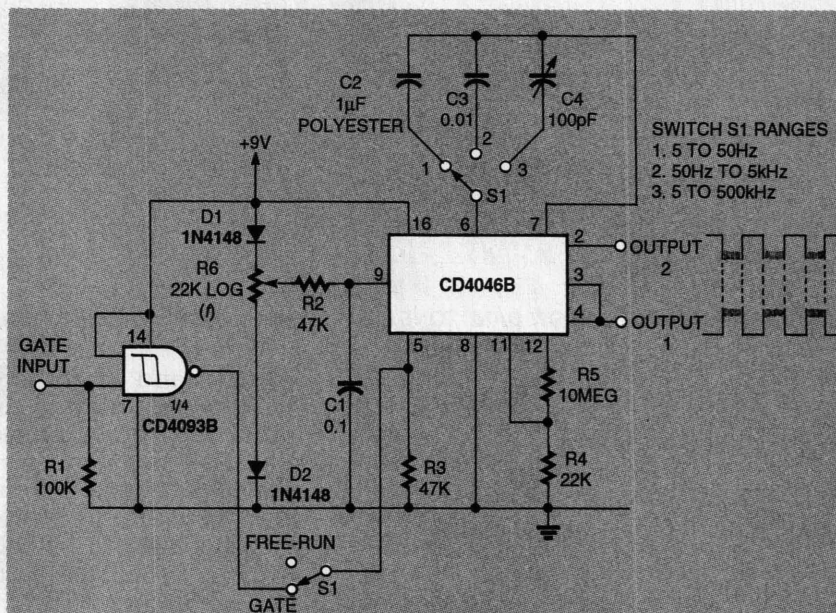

FIG. 9—UNIVERSAL CLOCK/SQUAREWAVE generator.
The signature of a resistor is a sloping line as shown in Fig. 9-a. The slope changes with the value of the resistor. Select a voltage so that the slope of the line for a known good resistor is close to 45° .
The signatures of capacitors and inductors are ellipses as shown in Fig. 9-b. They should nearly fill the oscilloscope graticule. High values of each flatten the ellipse along its horizontal (X) axis, and low values flatten it along its vertical (Y) axis.
- Silicon diodes exhibit the easily identifiable backward "L"-shaped signatures shown in Fig. 9-c. Light-emitting diodes have similar signatures except that they have a greater slope in their vertical portions. This slope varies with the emission color of the LED, as shown in Fig. 9-d.
Zener diodes conduct in both directions as shown in Fig. 9-e. If the diode is good, it will have a sharp, well defined knee, provided the test voltage is set high enough to produce it.
signature shown in Fig. 9-c, the horizontal distance between the vertical axis on the screen and the vertical part of the sig-
Figure 9 shows how the CD4046B VCO can be converted
In the waveform for the Zener diode in Fig. 9-d, the forward current is a function of the forward voltage. But when the reverse voltage equals the PN junction breakdown voltage, reverse current increases rapidly, producing a vertical line in the lower left quadrant of the screen. This line is the *break-over point* or Zener voltage, and it is established by the knee in the signature.
FIG. 9—NORMALIZED CURRENT VS. VOLTAGE SIGNATURES for electronic components: resistor (a), inductor or capacitor (b), silicon signal diode (c), light-emitting diode (d), and Zener diode (e).